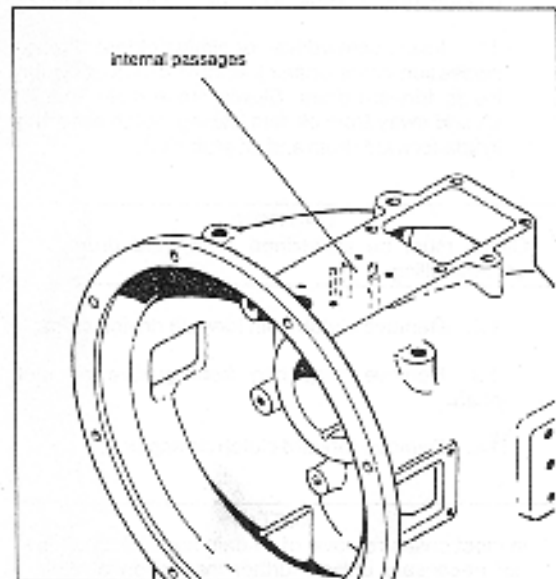

Fig. 34. Internal oil passages
- d.) Clean all internal oil passages from selector valve through upper part of housing. See fig.34